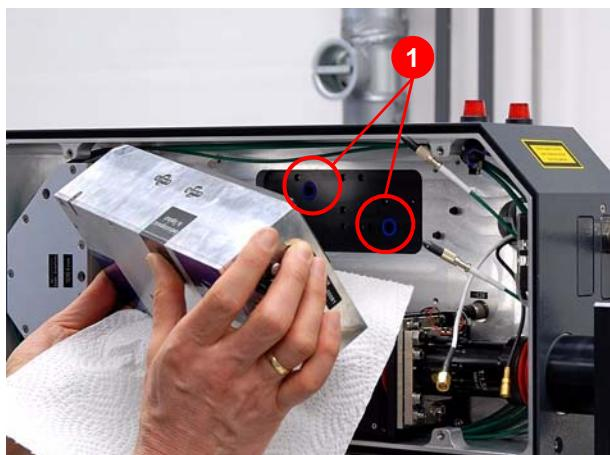

Figure 7.59 O-rings
10. Remove the O-rings (1) (Figure 7.59).